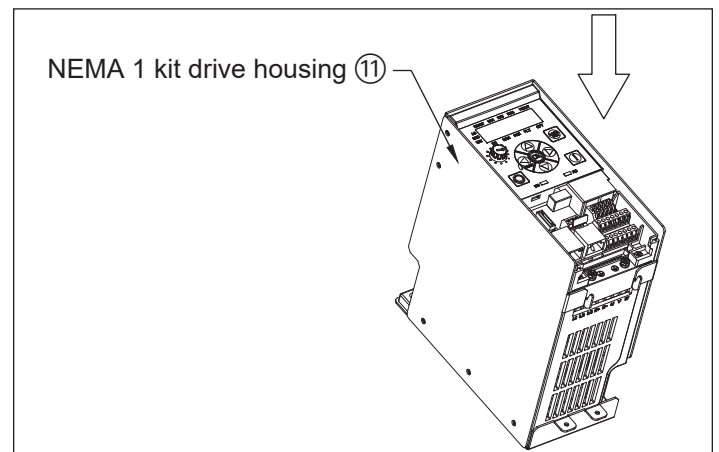

Figure 4. Inserting the drive into the metal NEMA 1 drive housing.
Insert the drive into the metal NEMA 1 kit drive housing ⑪ (see Figure 4).